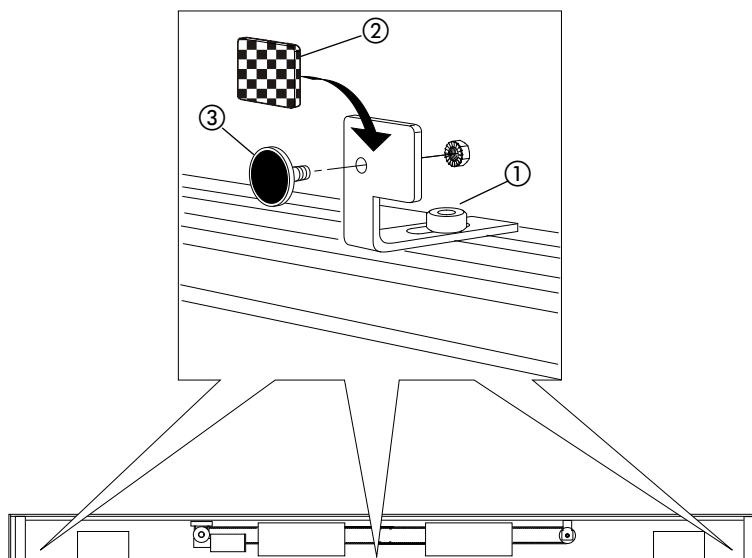

fig. 76
Install the three housing fixing brackets, using the supplied screws (fig. 76 ref. ①).
If using the standard housing securing accessories, apply Velcro on the fixing brackets (fig. 76 ref. ②).
If using the lx housing securing accessories, apply the magnets on the fixing brackets (fig. 76 ref. ③).